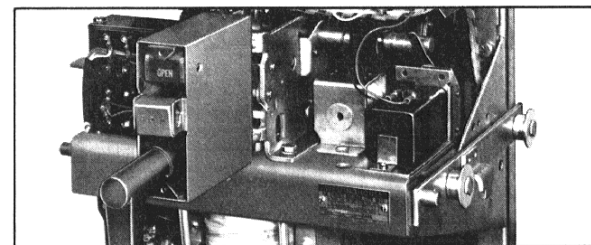

Fig. 7 Actuator in Place and Wired
4. Using the actuator as a template, drill and tap a .190-32 hole on the scribed line and temporarily secure front of actuator to platform with "L" bracket in place using .190-32 x .75 screw nut and washer, similar to Fig. 7.
4. Connect the black wires to the actuator using .138 nut lock and flat washers. See Figs. 7 and 9 being careful to observe polarity mark on one wire. Connect green wire to the "L" bracket (step 4 in placement of actuator). This now grounds the star point of the sensors.